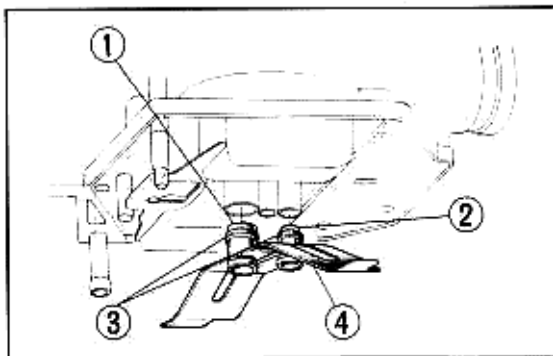

Fig. 8-3 ① Needle Jet ③ O-Ring
- * Exercise particular care that the clip plate should be installed in correct orientation (Fig. 8-3).